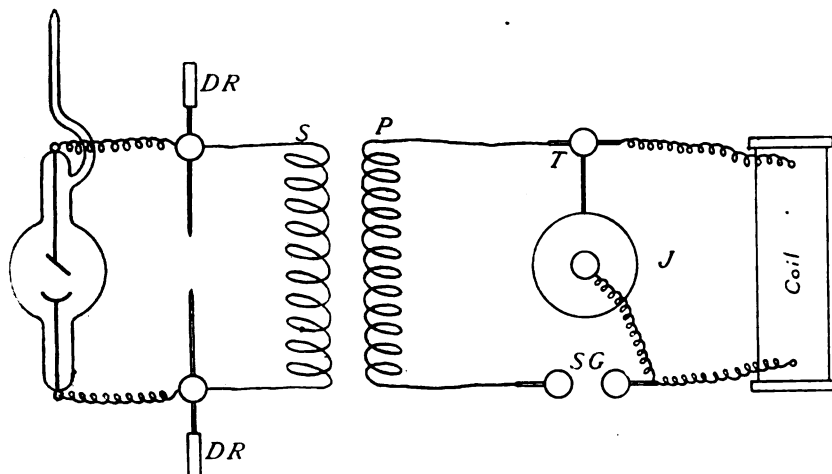

FIG. 42.—DIAGRAM OF CONNECTIONS FOR RADIOGRAPHIC WORK.
This done, the plan below (Fig. 42) shows the disposition of the parts and the arrangements for working.
Fig. 42 shows on the right hand the spark coil to be used (a 2, 3, or 4-in.), the outside coating of the Leyden jar (J) is in electrical contact with a terminal T, through which passes a wire from the